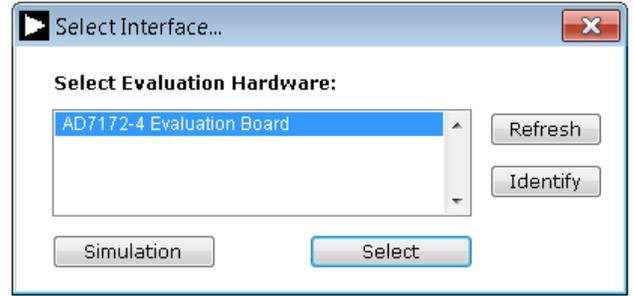
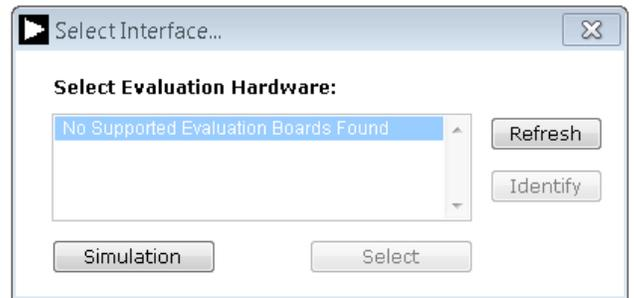
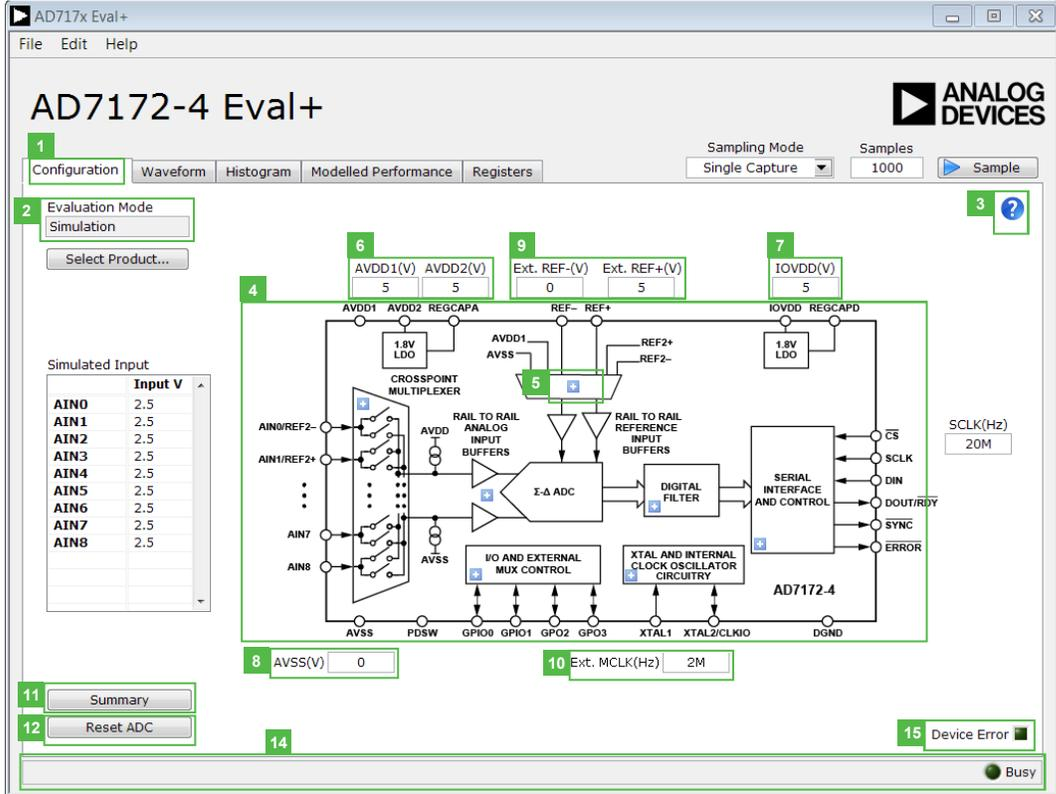
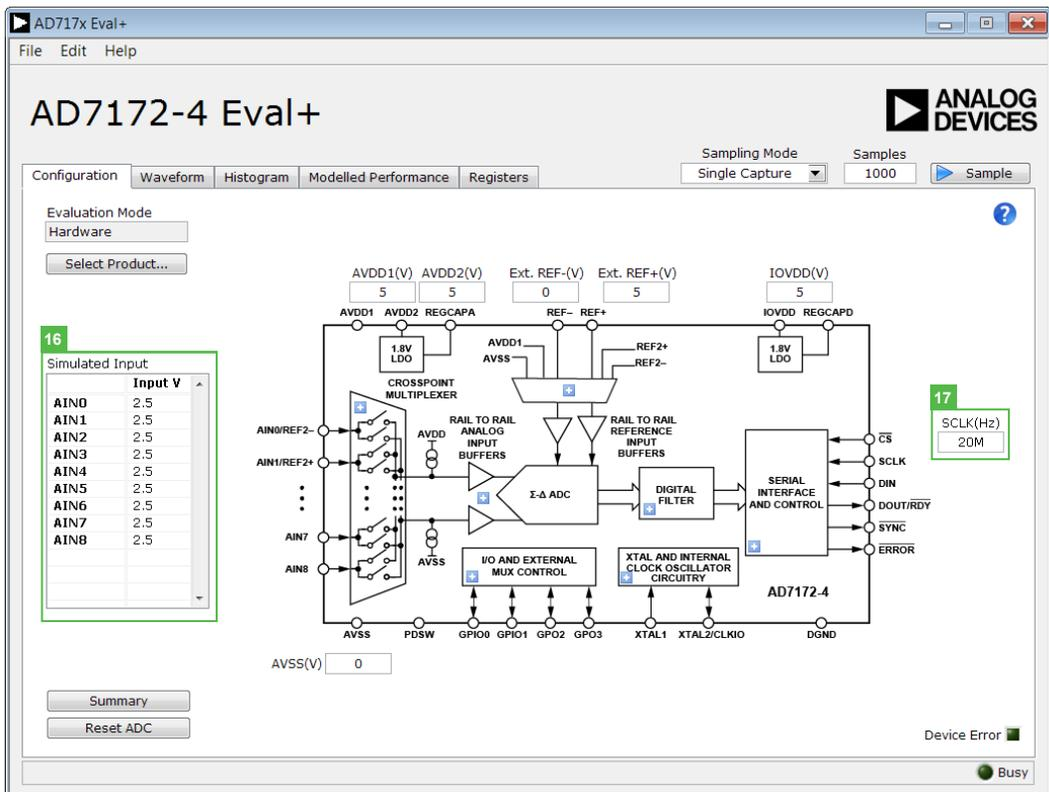

Figure 12. AD717x Evaluation Board Selection
Figure 13. Evaluation Board Selection, No Board Connected
Figure 15. Configuration Tab of the AD7172x Eval+ Software in Hardware Mode
Figure 16. Configuration Tab of the AD7172-4 Evaluation Software in Simulation Mode
2. The dialogue box in Figure 12 appears; select **AD7172-4 Evaluation Board**. The main window of the software box displays as shown in Figure 15.
3. If the **EVAL-AD7172-4SDZ** evaluation system is not connected to the USB port via the **SDP-B** when the software is launched, the software displays the dialog box shown in Figure 13. Connect the evaluation board to the USB port of the PC; wait a few seconds, click **Refresh** and the option shown in Figure 12 appears.
Figure 15 shows the **Configuration** tab when **Hardware** mode is selected and Figure 16 shows the **Configuration** tab when **Simulation** mode is selected. The controls highlighted in Figure 16 are only available in **Simulation** mode.
The Evaluation Mode indicator displays the current evaluation mode. To switch between modes, click the **Select Product** button and the dialog box shown in Figure 12 appears.